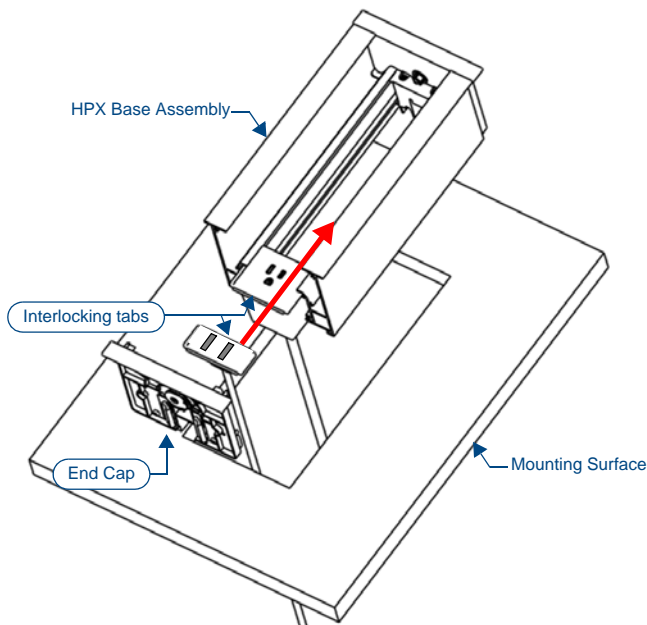

FIG. 6 Installing the HPX-N102-USB-PC Module
1. Orient the module relative to the HPX base assembly so that the Module's faceplate is facing up, towards the mounting surface (FIG. 6).